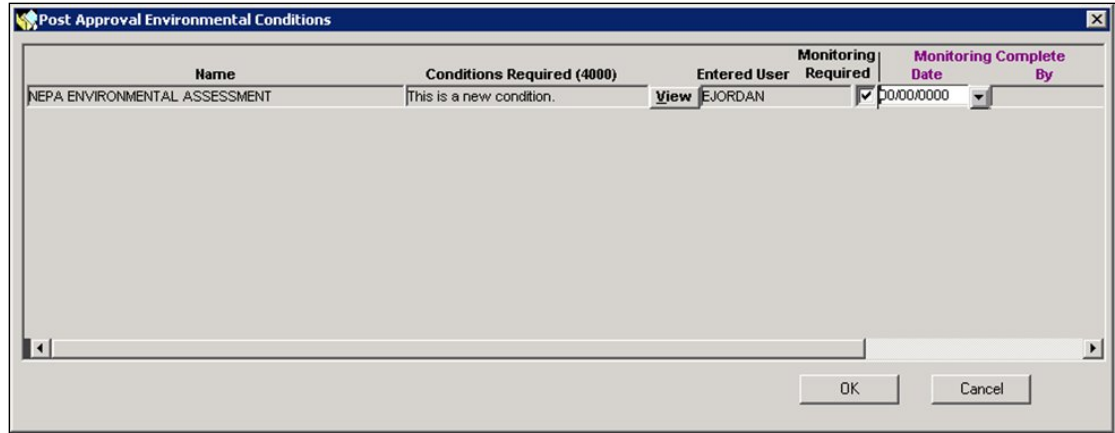

Figure 11-16: Environment Conditions Dialog Box
- a. The Environment Conditions dialog box is displayed (Figure 11-16).